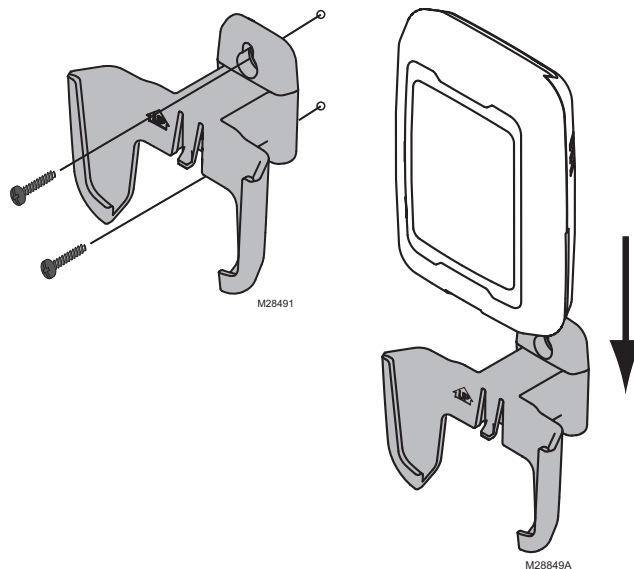

Fig. 3. Mounting the Sensor Bracket and Sensor
1. Mount the sensor bracket on a vertical wall. at least 6 inches below any overhang. Choose a location protected from direct sunlight. See Fig. 3.
7. Place sensor cover back on the sensor and return the sensor to the bracket. See Fig. 3.